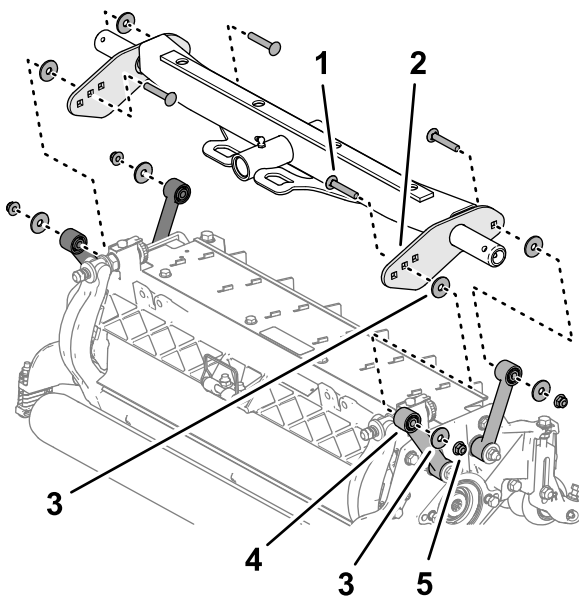

Figure 16
- Align a washer between the carrier plate and link (Figure 16), and loosely assemble the plates and spacer with a carriage bolt (3/8 x 2-1/4 inches), washer, and flange locknut (3/8 inch).